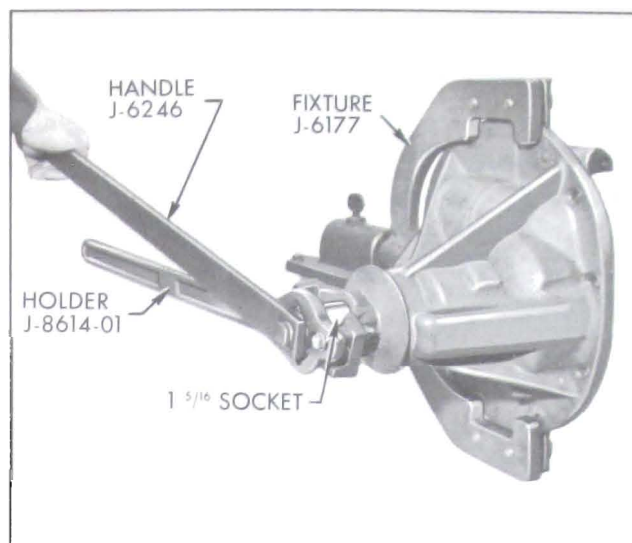

Figure 6-13—Removing Pinion Nut
3. Install Holder J-8614-01 on pinion flange using two 5/16-18 x 2 bolts with flat washers. Remove pinion nut using a 1-5/16 (3/4 drive) socket on Handle J-6246. Remove washer. See Figure 6-13.